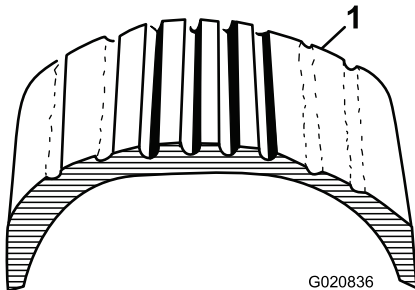
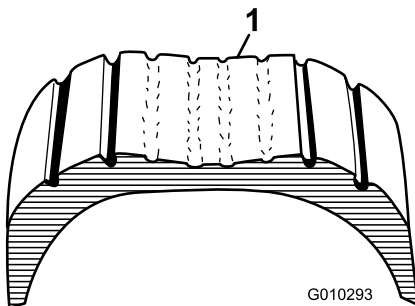

Figure 14
Figure 15
1. Visually inspect the tires for damage and wear (Figure 14 and Figure 15)